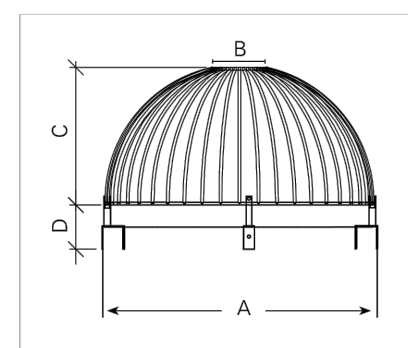

FIG. 1 Dimensions of Type 1 Hands Scruffy Doma (see table)
- The type 1 debris screen is a full height design, suitable for manholes with a 600mm diameter or larger. (Refer to figure 1) - The type 2 debris screen has a lower height profile making it less noticeable in areas such as parks and gardens. Suitable for manholes with a diameter of 600 mm or larger. (Refer to figure 2)	- Domes brackets are bolted to the manhole riser with stainless steel bolts. - The bolts are purchased separately. Note: The North Island and South Island have different versions of S-Domes with small changes in the bracket design. (See photos below) Images created using hand-drawn sketches for access information